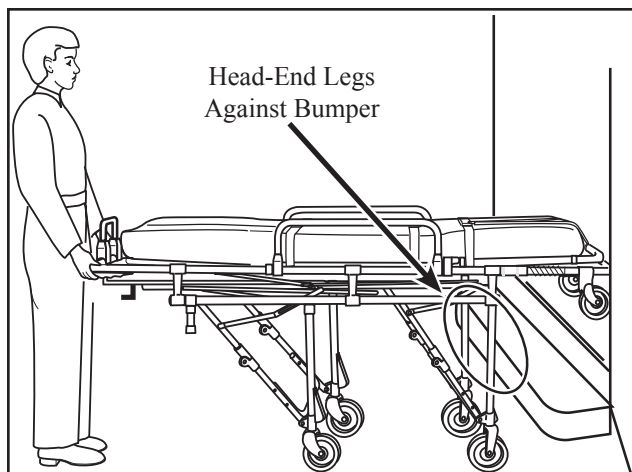

Figure 13 - Preparing to Load the Cot
2. **Both Operators:** Roll the cot into the patient compartment until the loading wheels rest on the patient compartment floor and the head-end legs contact the ambulance bumper (Figure 13).